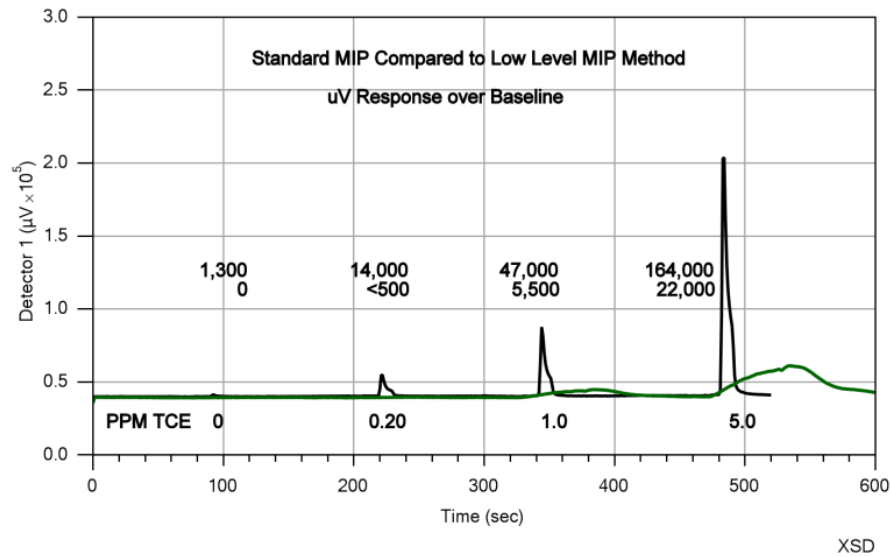

Figure 1: Standard vs. Low level MIP Response
The low level (LL) MIP method works due to special management and control of the trunkline system carrier flows. In standard MIP operation, the carrier gas continually sweeps across the membrane transporting contaminants to the detectors at the surface. In the LL MIP method, the trunkline sweep flow is temporarily stopped when the MIP probe is brought to rest at a discrete depth in the soil. Stopping the sweep gas flow allows the contaminant concentration to build behind the membrane. This results in a larger and narrower contaminant response peak at the detectors for a given chemical concentration (Figure 1). A switching valve located inside the MP9000 creates separate gas flow paths for the MIP trunkline and detectors, which allows the trunkline flow to be stopped and restarted with minimal impact of detector baselines or stability. When the trunkline flow is restarted the contaminant mass (peak) is quickly swept to the surface with a trunkline flow rate of approximately 60ml/min. and is routed to the detectors via a sample valve located in the MP9000. Figure 1 shows the difference of standard and LL MIP response levels.